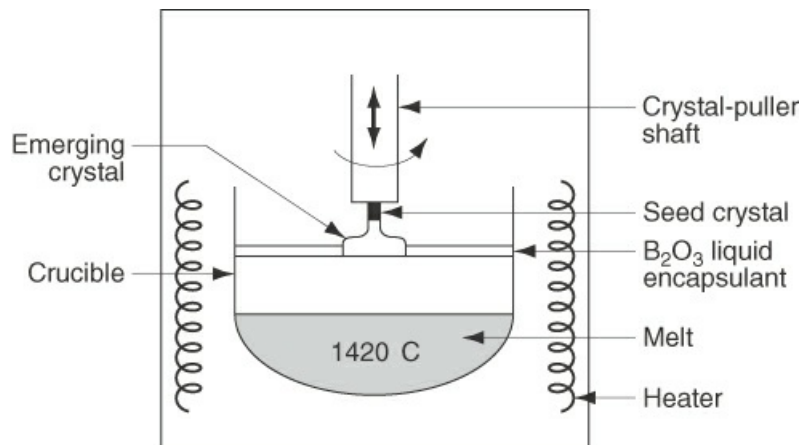

Figure P3.2.18
****3.2.18** Silicon rods used in the manufacture of chips can be prepared by the Czochralski (LEC) process in which a cylinder of rotating silicon is slowly drawn from a heated bath. Examine Figure P3.2.18. If the initial bath contains 62 kg of silicon, and a cylindrical ingot 17.5 cm in diameter is to be removed slowly from the melt at the rate of 3 mm/min, how long will it take to remove one half of the silicon? What is the accumulation of silicon in the melt? Assume that the silicon ingot has a specific gravity of 2.33.